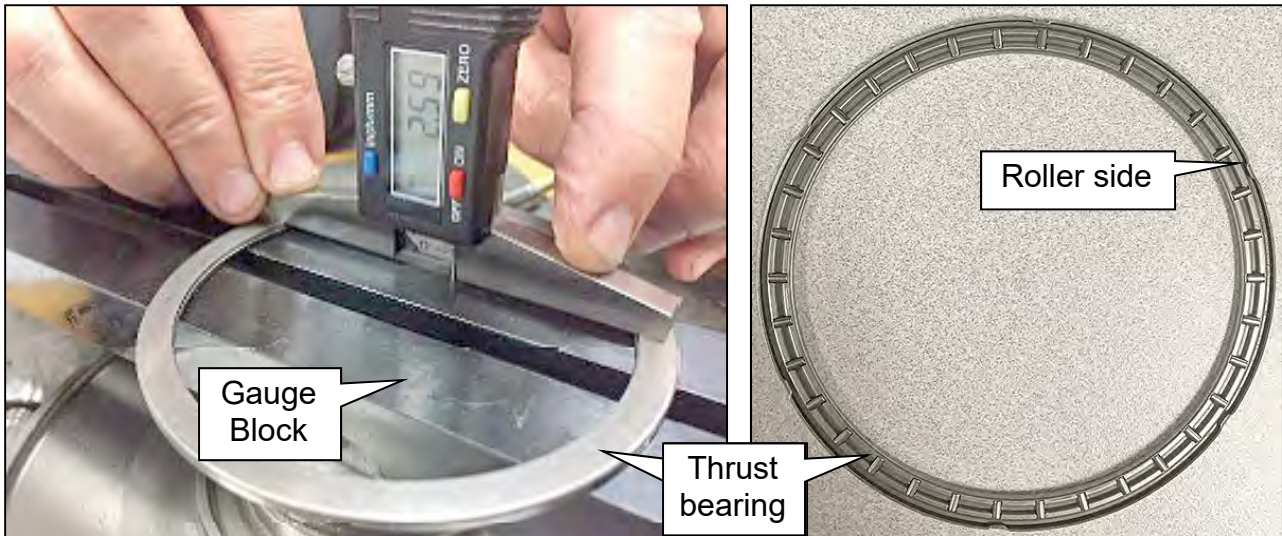

Figure 147
a. Place the thrust bearing roller side down on the Gauge Block (Figure 147).